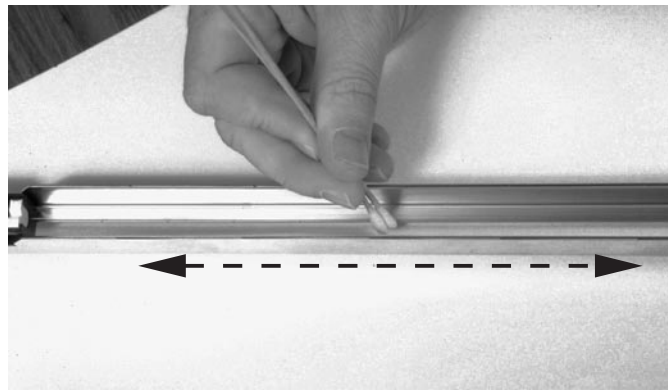

Figure 271. Cleaning a Scorotron Wire
10. Clean the corona wire by placing it between two cotton swabs, moistened with soapy water, held in one hand. See Figure 271.